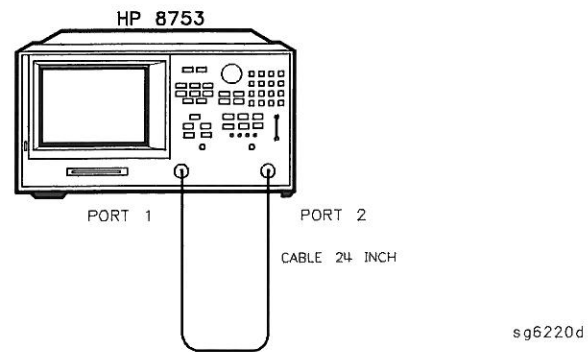

Figure 1-30. Test Port 2 Input Frequency Response Test Setup
47. When the analyzer displays the message POWER METER CALIBRATION SWEEP DONE, connect the equipment as shown as in Figure 1-30.